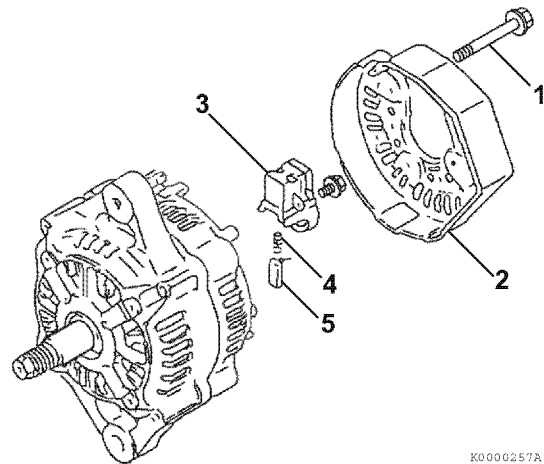

Figure 11-17
- Reinstall the brush holder (3, **Figure 11-17**), springs (4, **Figure 11-17**) and brushes (5, **Figure 11-17**).
- Reinstall the rear cover (2, **Figure 11-17**) to the rear frame housing with three bolts (1, **Figure 11-17**).